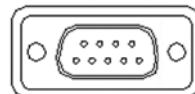

Figure 2-2 Female end of the null-modem cable
1. Hold the female end of the null-modem cable so that the shorter side is on top (Figure 2-2 on page 5), then insert into the serial port on the MODIS™ unit.